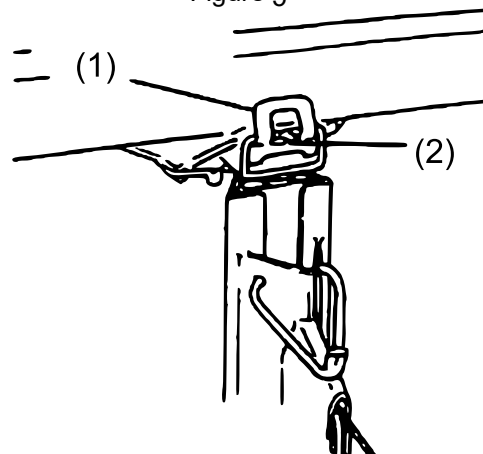
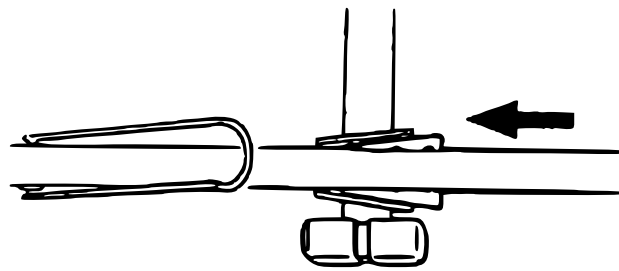

Figure 6
Figure 7: Topview
6. Attach the cradle to the frame (Fig. 6):
- b. Secure the cradle to the frame by snapping the tilt latch upward so it hooks over the stud (2) on the cradle (1).
- a. Slide the tapered plates on the crossarms into the tapered sockets on the cradle (Fig. 7).
- b. Press each crossarm forward into the socket until the spring tab (1)